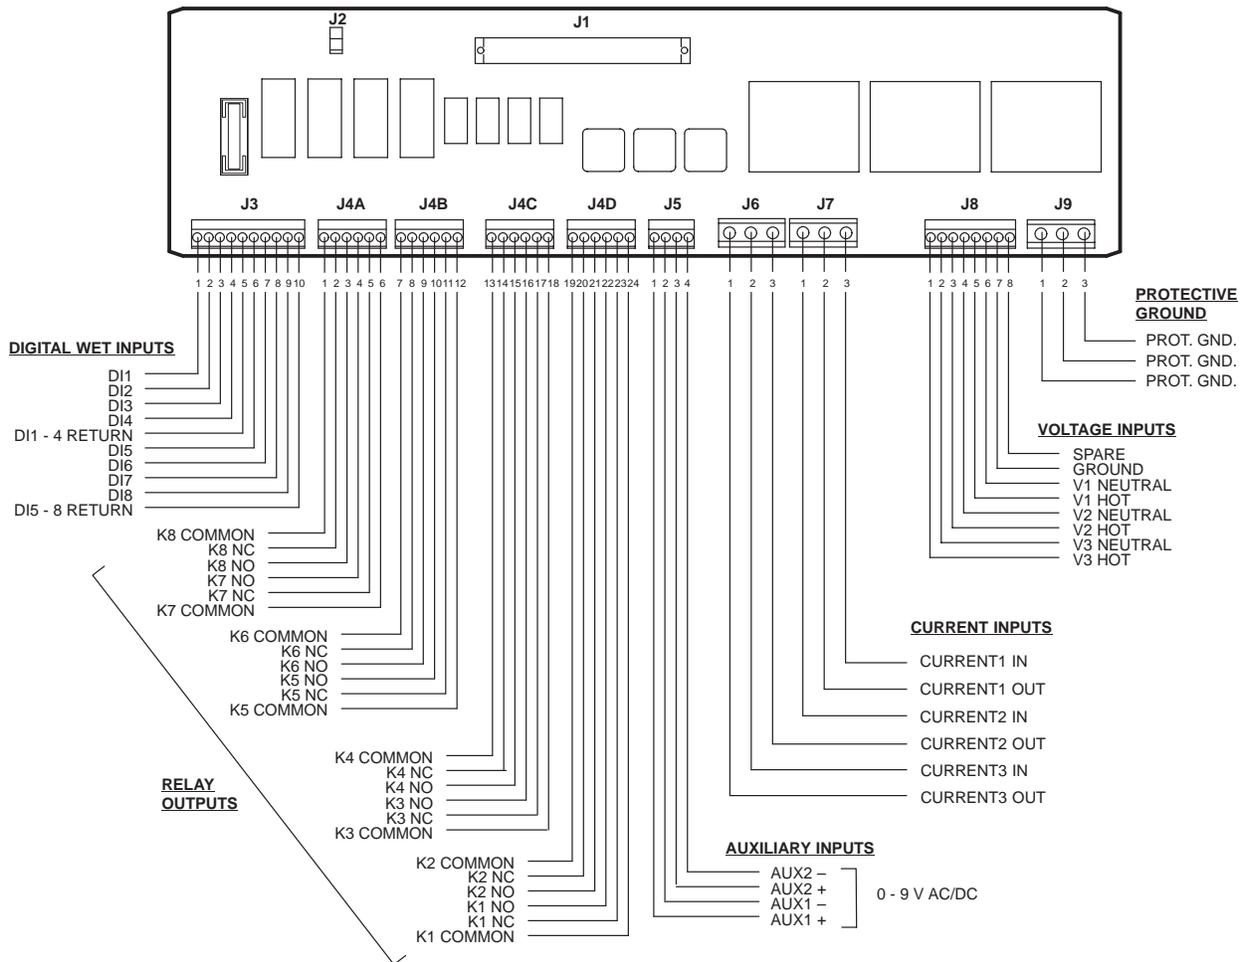

Figure 4. User Connectors - Pin Definition
- (1) Connect good earth ground directly to the protective ground strip of the MOSCAD RTU.
- (2) Connect the earth ground to one of the pins of the protective ground TB (J9) on the Termination Panel (see Figure 4).
- (5) Connect the user devices to the user connection TBs. Refer to Figures 4 and 5.
The ACA module includes a LED panel composed of 20 LEDs (see Figure 4). All the LEDs (except for the CLK LED) light in the corresponding conditions only if they are enabled by the CPU module.